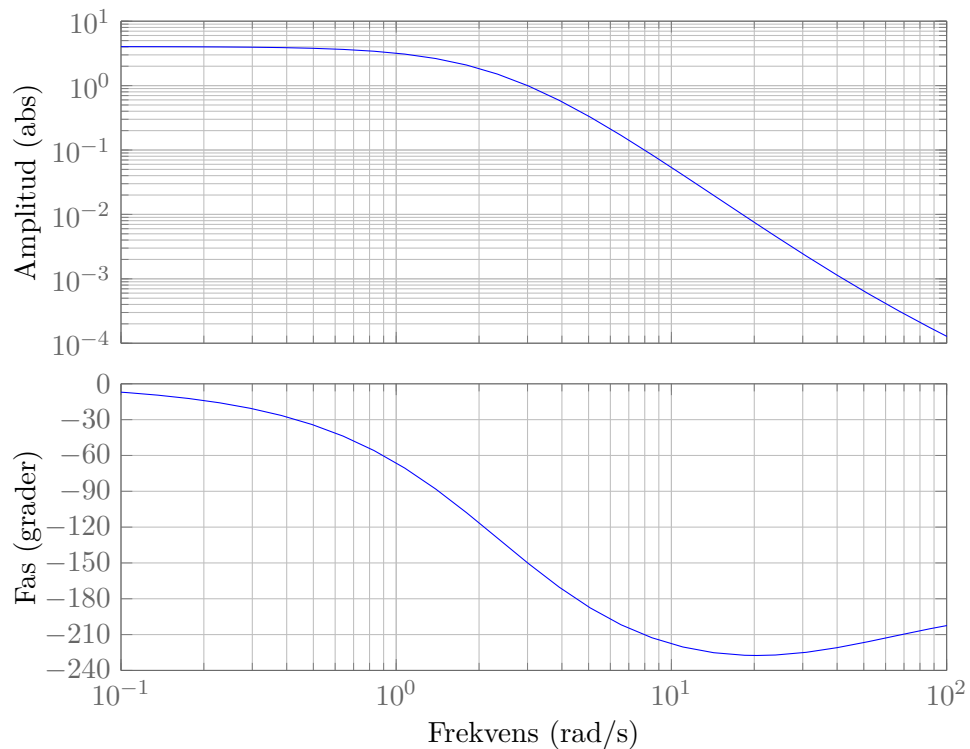

Figure 7 Bode plot of the open-loop system G_0 in Problem 8.
8. A controller has been designed for a process so that the loop transfer function G_0 is obtained. Figure 7 shows the Bode plot for the loop transfer function. Initial lab tests showed that the closed-loop system had desired properties. However, when the control is done over a network with delays up to 0.35 s, the closed-loop system becomes unstable.